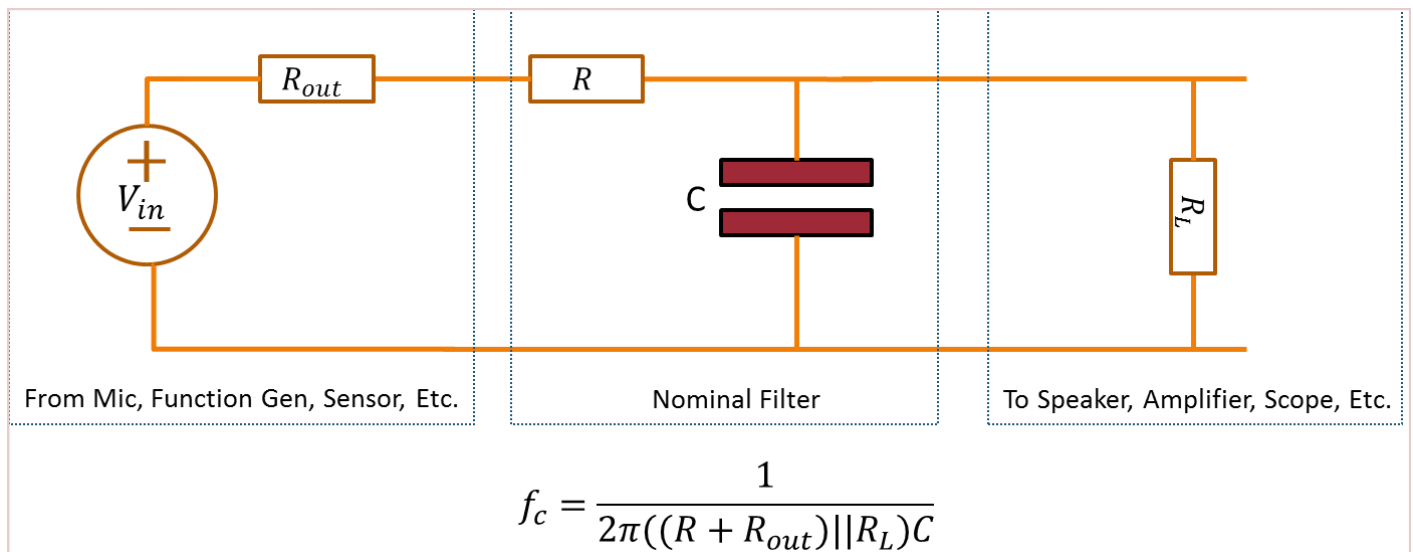

Figure 8. Taking output impedance and load resistance into account.
The output impedance of the source (function generators in the lab in our case) should be added to the “R” in the equation if it is $1/10^{\text{th}}$ or greater of the desired calculated R value or if high accuracy is desired. This is straightforward since it is in series with the resistor and can be added. If there is a significant load however, it may not immediately be obvious what should be done. The case for finite source impedance (output impedance of the source) in addition to a load resistance is illustrated in Fig. 8. The equation for the corner frequency is changed to account for these differences. This equation was developed by posing the question: What resistance does the capacitor see? Shorting the voltage source and finding the Thevenin equivalent resistance results in the nominal “R” resistor in series with the source resistance of the function generator with the sum of the two in parallel with the load resistance. For a high-pass RC circuit, the modified equation is still valid.
2. Design a low-pass filter with a cut-off (corner) frequency of 100 KHz. Use a 75 ohm load resistor and use the circuit and equation in Fig. 8 to assist in designing the filter. Remember the output impedance of the function generator is 50 ohm. You don't have to get an exact frequency match since the component selection in the lab may be limited. Be sure to note this if you had to choose a different frequency for your design. Show that the output amplitude drop at the corner frequency is -3 dB or 0.707. For your reference point measure the voltage with the load connected and no filter in place. If you get your reference point without a load connected then your calculations will be wrong.